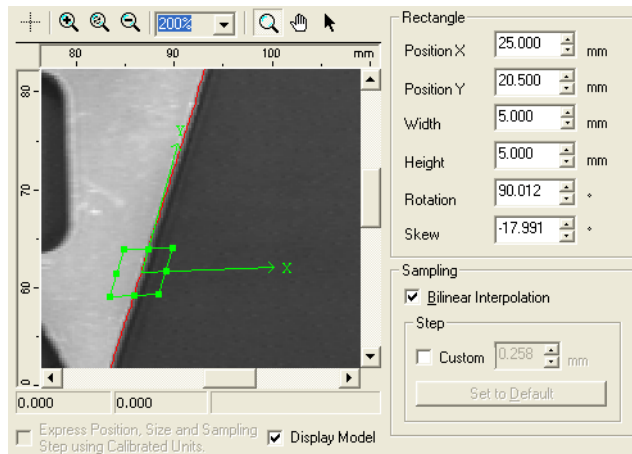

Figure 45 Adjusting Rectangle for the Hook's Right Edge
8. Place the Rectangle on the part as shown in Figure 45. Click the arrow of the X-axis and drag it to adjust the rotation to 90 degrees. Click the center of the Rectangle and drag it into position. Since the edge to be located is not orthogonal to the tool's X-axis, adjust the skew by clicking and dragging the arrow of the Y-axis to make it parallel to the right edge of the part. Fine-tune the position with the text boxes if needed. Once the Rectangle is placed, click **Execute**.